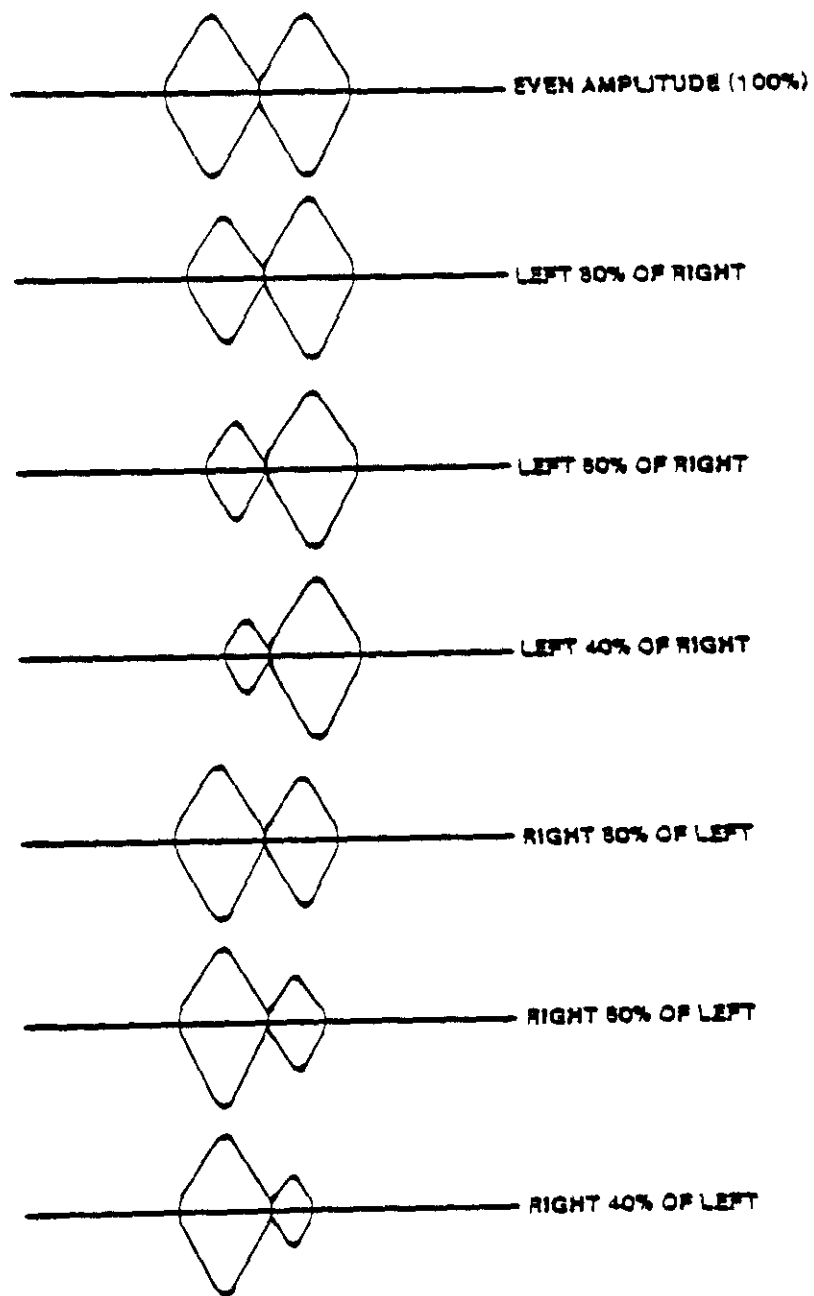

FIGURE 5-6
7. Adjust the oscilloscope to observe a Cats Eye pattern (Figure 5-6).
4. Adjust until the Cats Eye patterns are equal in amplitude (Figure 5-6).